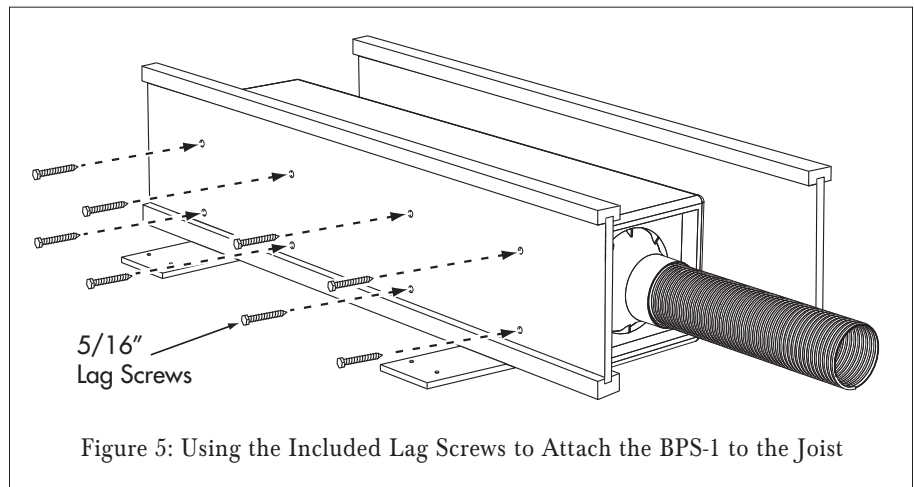

Figure 5: Using the Included Lag Screws to Attach the BPS-1 to the Joist
7. Screw the eight included lag screws through the holes in the joist and into the holes in the side of the BPS-1 cabinet, as shown in Figure 5. Use the shorter lag screws for I-joist construction; use the longer lag screws for standard joist construction.